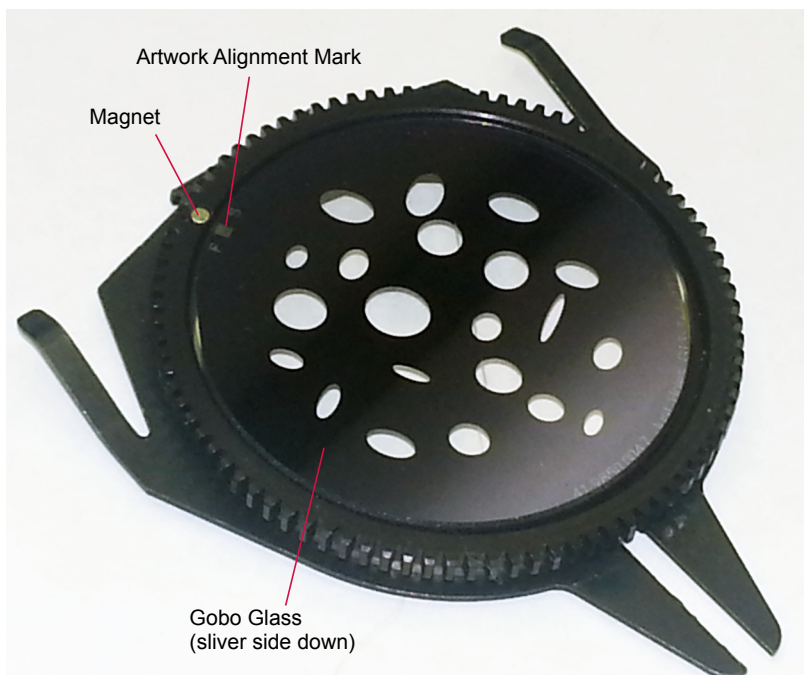

Figure 3: Installing Gobo Glass / Alignment
- Step 4. Place glass in carrier, silver side down (black side up) as shown in **Figure 3**. If there is an alignment mark on the glass, align it with the carrier's magnet. (Gobos by other vendors may not include an alignment mark. Extra care must be taken to ensure consistent alignment from gobo to gobo.)